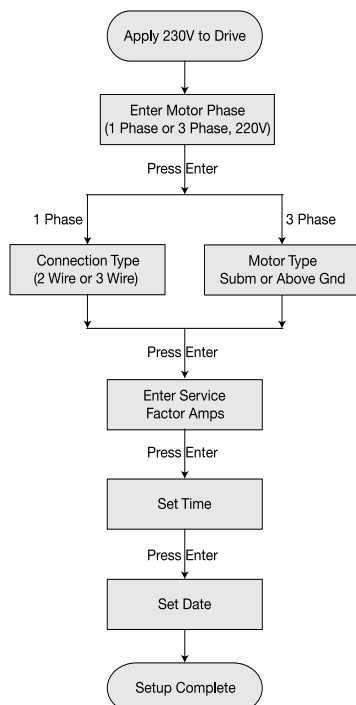

Figure 10 - Drive Setup Guide.
1. **Program the Drive:** Apply power to the PENTEK INTELLIDRIVE. *Setup Guide* will appear in the display. Follow keypress sequence shown in Figure 10.